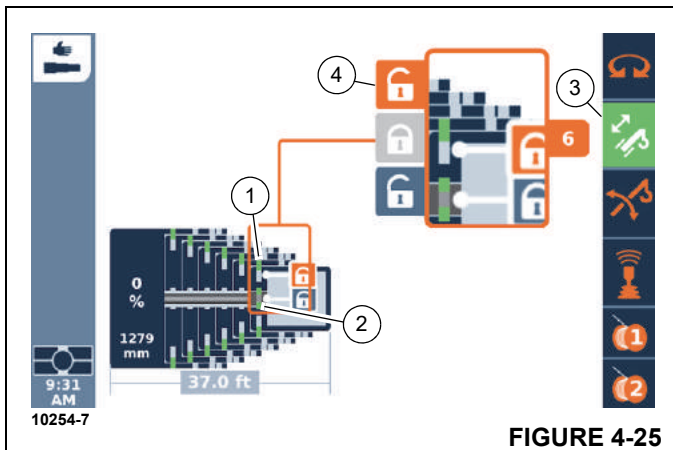

FIGURE 4-25
Telescoping function enabled – symbol (3, Figure 4-25) green
1. Select the symbol (4, Figure 4-25).